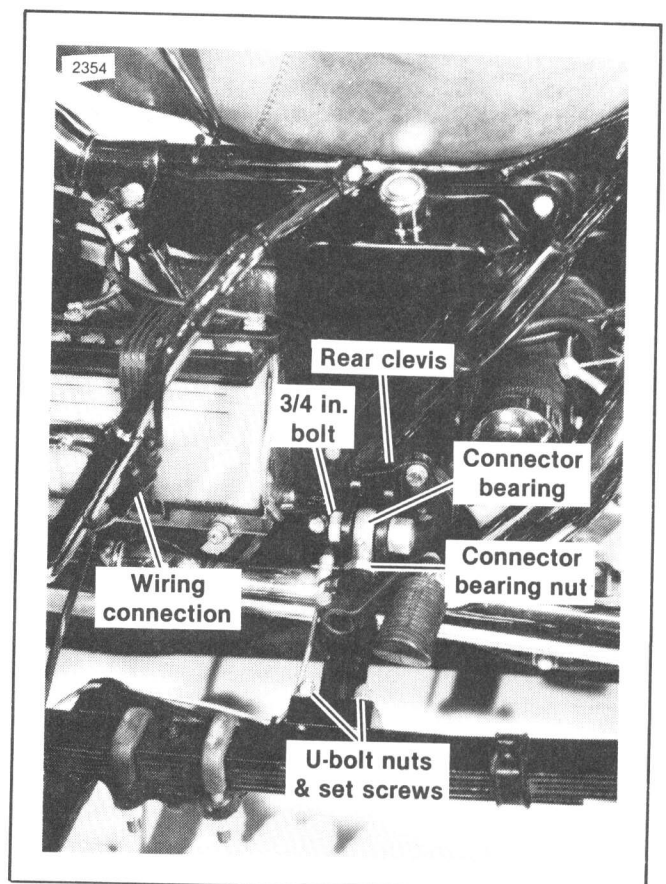

Figure 6-8. Rear Sidecar Connection
4. See Figure 6-8. Loosen the four U-bolt nuts and two set screws that attach the rear mounting bracket to the sidecar chassis. Shift rear footrest and mounting bracket with connector bearing on sidecar to line up with rear clevis on motorcycle. Install 3/4 in. diameter bolt through clevis and connector bearing. Nut and lockwasher should be toward front of motorcycle. Do not tighten at this time.
7. Install sidecar wiring connection to motorcycle wiring connection as shown in Figure 6-8 and disconnect right rear directional light.
1. Disconnect sidecar electrical connection from motorcycle (see Figure 6-8). Reconnect motorcycle electrical connection to right turn signal at saddlebag.